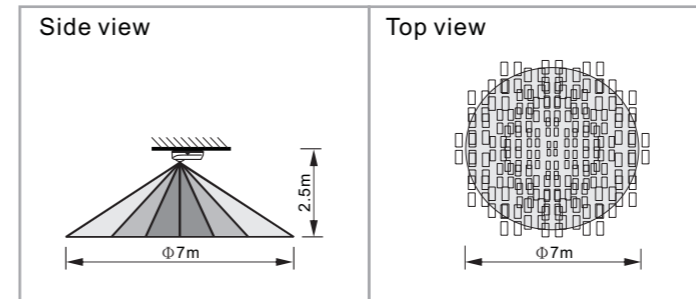

FIG.2
3.1.1 It is recommended to install at the height of 2.5m, and the detection range can reach up to the diameter of 7m. (See FIG.2).